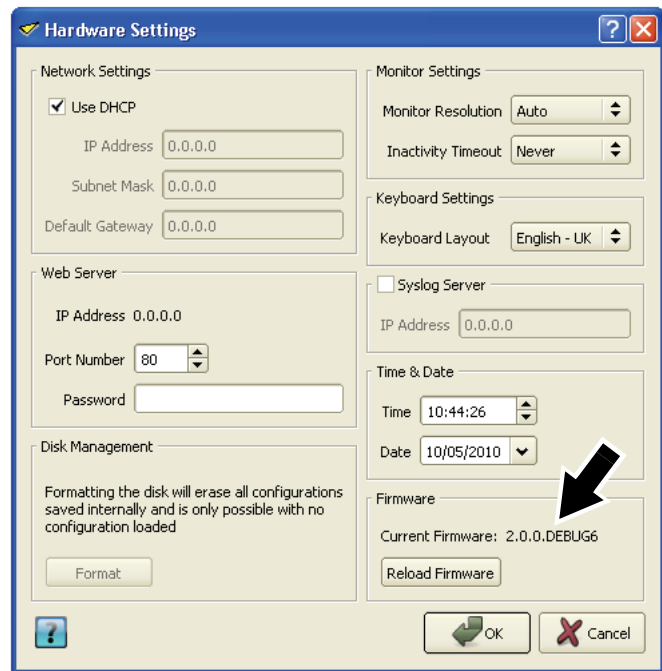

Figure 44: Firmware version and reloading firmware
3. See Figure 44 on page 46. If using DHCP, make sure the **Use DHCP** checkbox under **Network Settings** is checked. Otherwise enter static IP address, subnet mask and gateway details.
5. See Figure 44. The current firmware version is displayed in the **Firmware** panel (arrowed). Click on the **Reload Firmware** button and browse to the **p3-100sc-XXX.fw** file on the USB memory device. Click on **Open** and wait while data is copied.